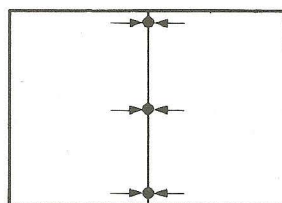

Fig. 1
1. Match the points shown in Fig. 1 of the horizontal direction convergence.